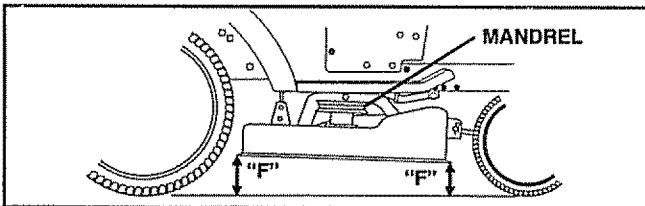

FIG. 20
**FRONT-TO-BACK ADJUSTMENT** (See Figs. 20 and 21) - **IMPORTANT: DECK MUST BE LEVEL SIDE-TO-SIDE. IF THE FOLLOWING FRONT-TO-BACK ADJUSTMENT IS NECESSARY, BE SURE TO ADJUST BOTH FRONT LINKS EQUALLY SO MOWER WILL STAY LEVEL SIDE-TO-SIDE.** To obtain the best cutting results, the mower housing should be adjusted so the front is approximately 1/8" to 1/2" lower than the rear when the mower is in its highest position.